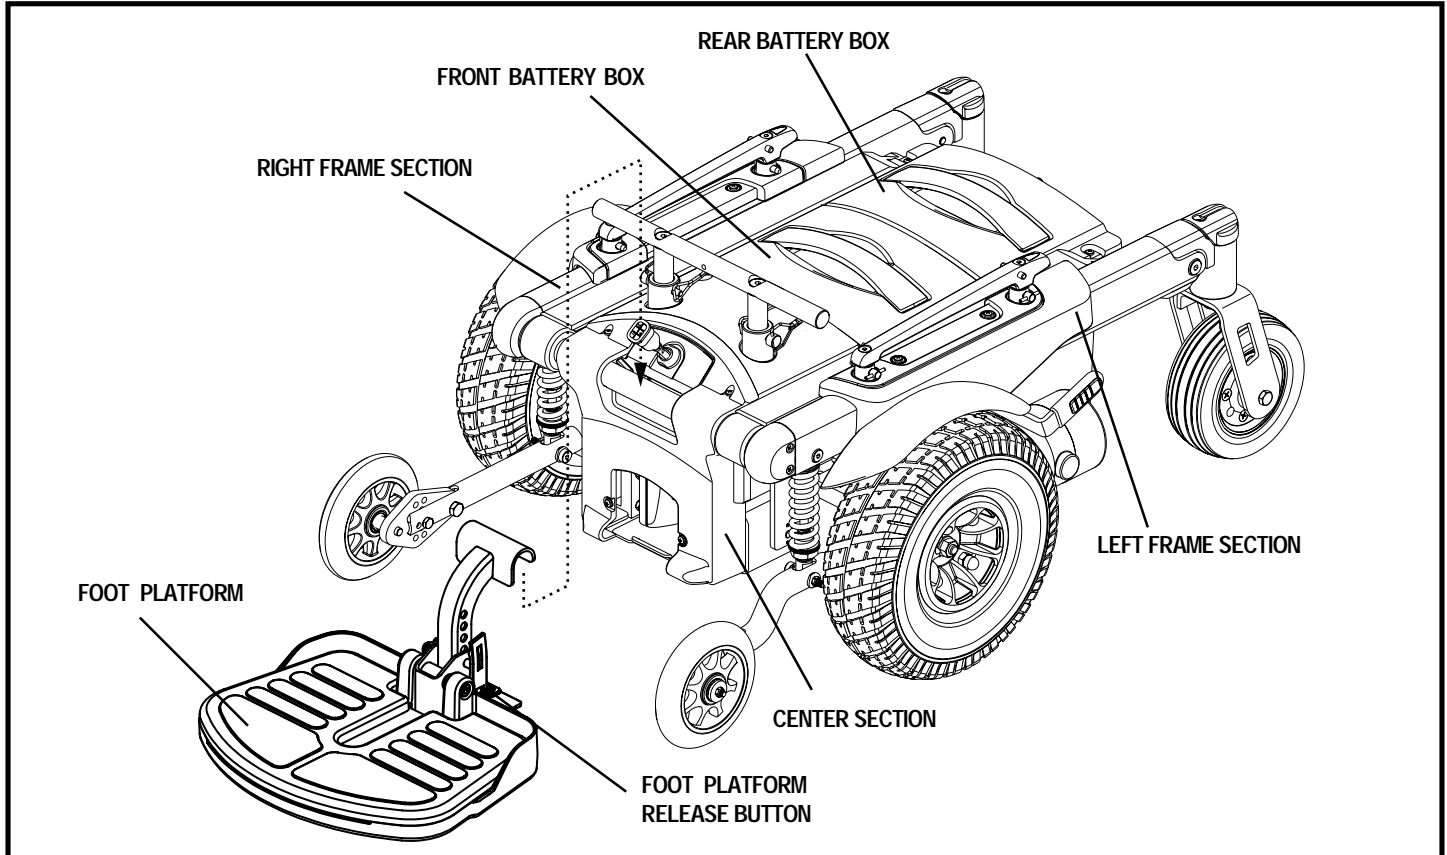

Figure 13. Power Base
The Jazzy 1107 power base disassembles into six parts for easy transportation and storage. See figure 13.
4. Press the foot platform release button and lift off the foot platform. See figure 13.